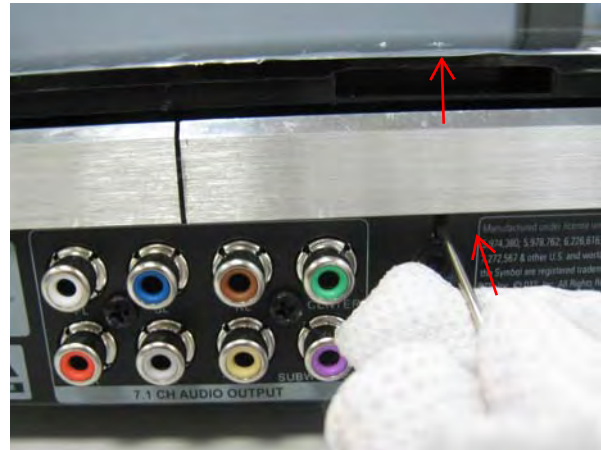

Figure 1
Step1: Remove 3 screws around the Back Plate. (Figure 1).